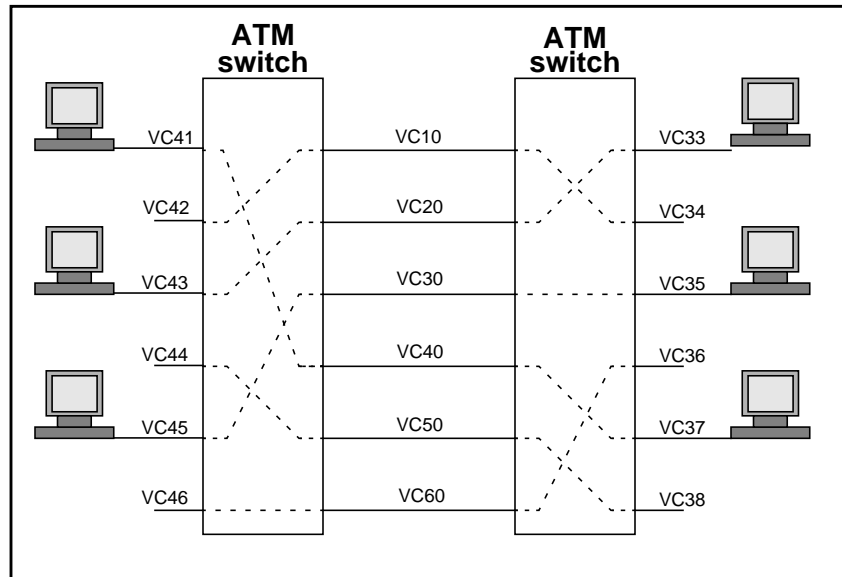

Figure D-2. Virtual Circuits
The *virtual path* (VP) creates groups of the VCs carried between the ATM entities, such as the ATM switches shown in Figure D-2: